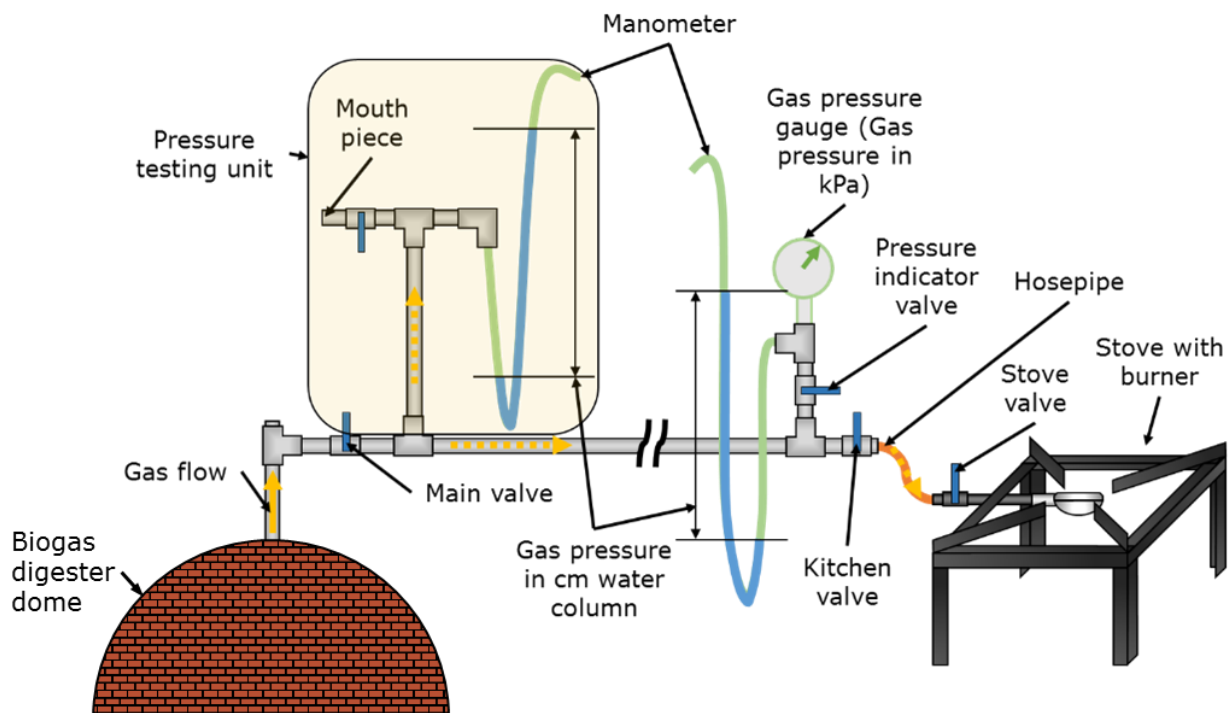

Figure 1: Biogas piping system with pressure testing unit and pressure indicators
Figure 1). Installed is usually a gas pressure gauge to indicate the pressure in kilopascal (kPa) or a manometer (water-filled hosepipe), which indicates the gas pressure in the system in cm water column (1 cm water column  $\approx$  1 mbar = 0.1 kPa). If the kitchen site is not equipped with a pressure indicator a testing unit needs to be installed at the digester site. When a gas pressure gauge is installed, the pressure indicator valve should always be closed when no pressure test is conducted. This is to prevent gas losses through the membrane in the gas pressure gauge, as it is not always completely gas tight.
- Figure 1) (continue with step 2)
3. Figure 1 and Figure 2)
4. Open the main valve (2), the kitchen valve and the pressure indicator valve (if present)